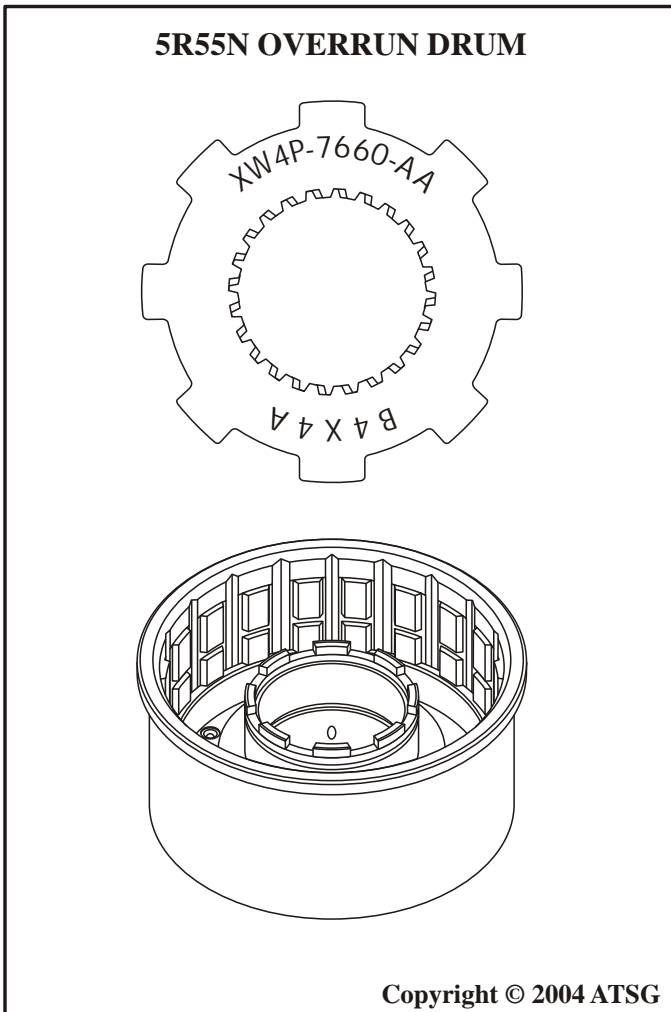

Figure 195
*Figures 195 and 196 are illustrations of the two different coast clutch housings. Notice that the slots to accept the tabs on the adapter plate are narrower and angled to the left at a very slight angle. This means that it will engage into the coast clutch housing in only one direction.*